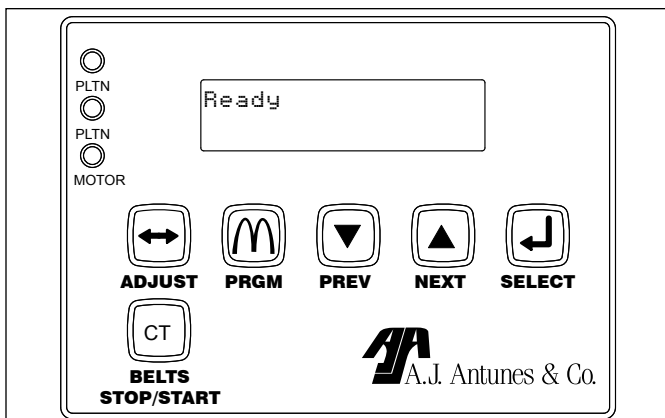

Figure 4. Club Toaster Ready Display
3. When the unit reaches operating temperature, the display will read **Ready** (Figure 4).